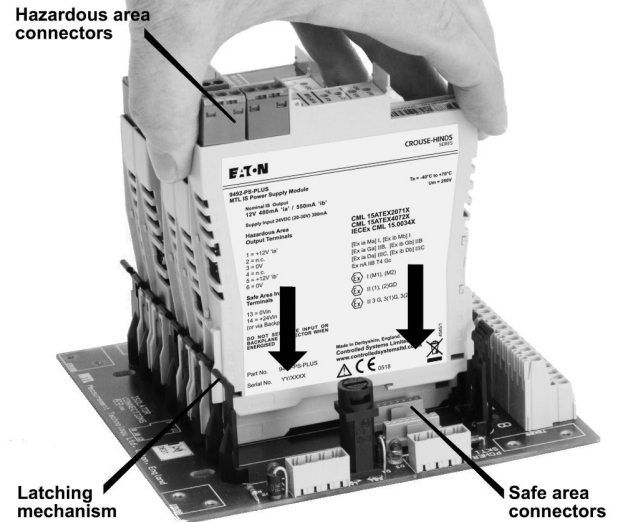

Figure 4.15: Fitting power supplies to backplane
4.7.1 Installation - Figure 4.15